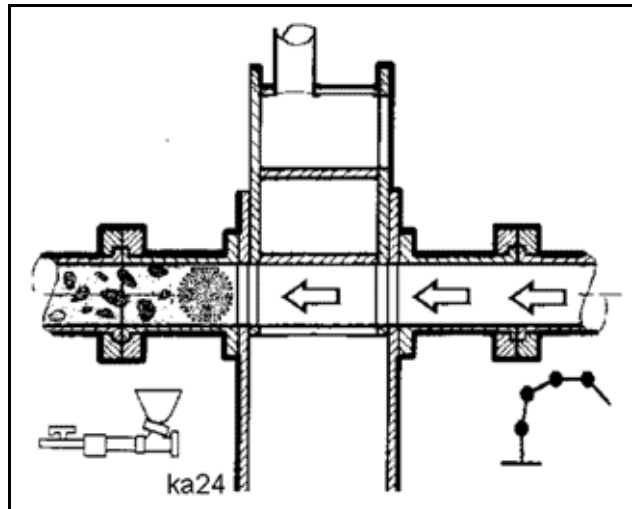

Fig. 470
- Extend the chamber once more (**Fig. 470**).